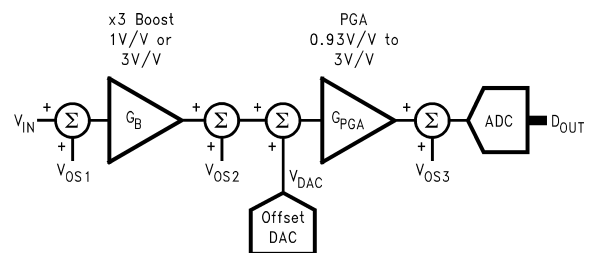

FIGURE 9. Internal Offset Mode
Figure 9 is a model of the LM9810/20's internal offsets. *Equation (5)* shows how to calculate the expected output code given the input voltage (V_{IN}), the LM9810/20 internal offsets (V_{OS1} , V_{OS2} , V_{OS3}), the programmed offset DAC voltage (V_{DAC}), the programmed gains (G_{B} , G_{PGA}) and the analog channel gain constant C.